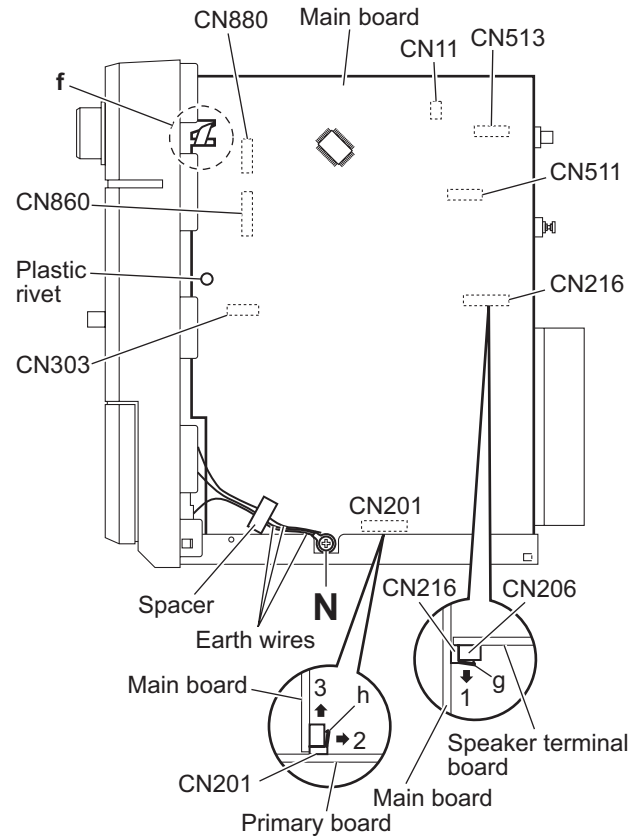

Fig.14
3.1.7 Removing the main board (See Figs.14 and 15)
- From the right side of the main body, remove the screw **N** attaching the earth wires on the reverse side of the main board. (See Fig.14.)
After attaching the earth wires, fix them with a spacer as before. (See Fig.14.)
- Remove the plastic rivet attaching the main board. (See Fig.14.)
- From the inside of the main body, disconnect the card wires from the connectors (CN11, CN303, CN511, CN513, CN860, CN880) on the forward side of the main board. (See Figs.14 and 15.)
When reassembly, pass the card wire through the section **f** of the main board before connecting the card wire to the connector **CN11**. (See Fig.14.)
- Release the lock **g** of the connector **CN216** on the main board in the direction of the arrow 1 and disconnect the main board from the connector **CN216** on the speaker terminal board toward this side. (See Fig.14.)
When releasing the lock **g**, take care not to break it. (See Fig.14.)
- Release the lock **h** of the connector **CN201** on the primary board in the direction of the arrow 2 and disconnect the main board from the connector **CN201** in the direction of the arrow 3. (See Fig.14.)
When releasing the lock **h**, take care not to break it. (See Fig.14.)